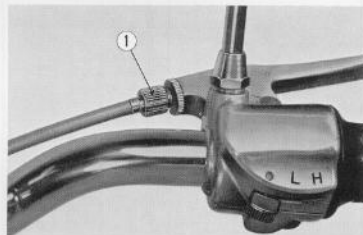
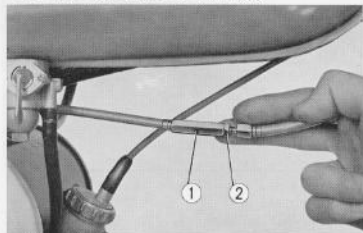

Fig. 4.16A ① Clutch cable upper adjuster
Fig. 4.16B ① Clutch cable adjuster ② Lock nu
NOTE : The adjustment of the clutch lever free travel can be made at both clutch cable upper adjuster ① (Fig. 4.16A) and at the clutch cable adjuster ① (Fig. 4.16B)